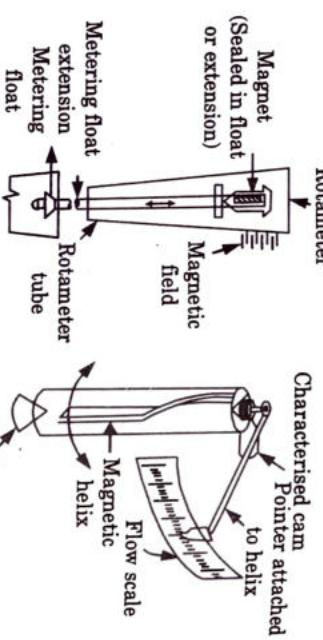

Fig. 4.12.1.
- Rotameter can measure the flow of both liquids and gases. Its operations is based on the variable area principle, where the flow raises a metering float in a tapered tube by increasing the area for passage of flow as shown in Fig. 4.12.1. The greater the flow, the higher the float is raised. Thus float height is directly proportional to flow rate.